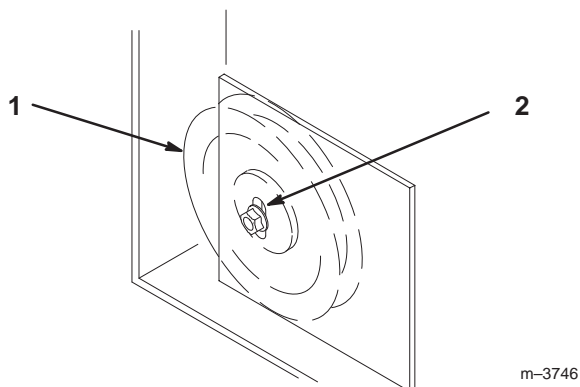

Figure 68
9. If adjustment is required, loosen the fixed idler on right support plate and move up or down in adjustment slot (Fig. 68). To relieve belt tension lift up on spring loaded idler.